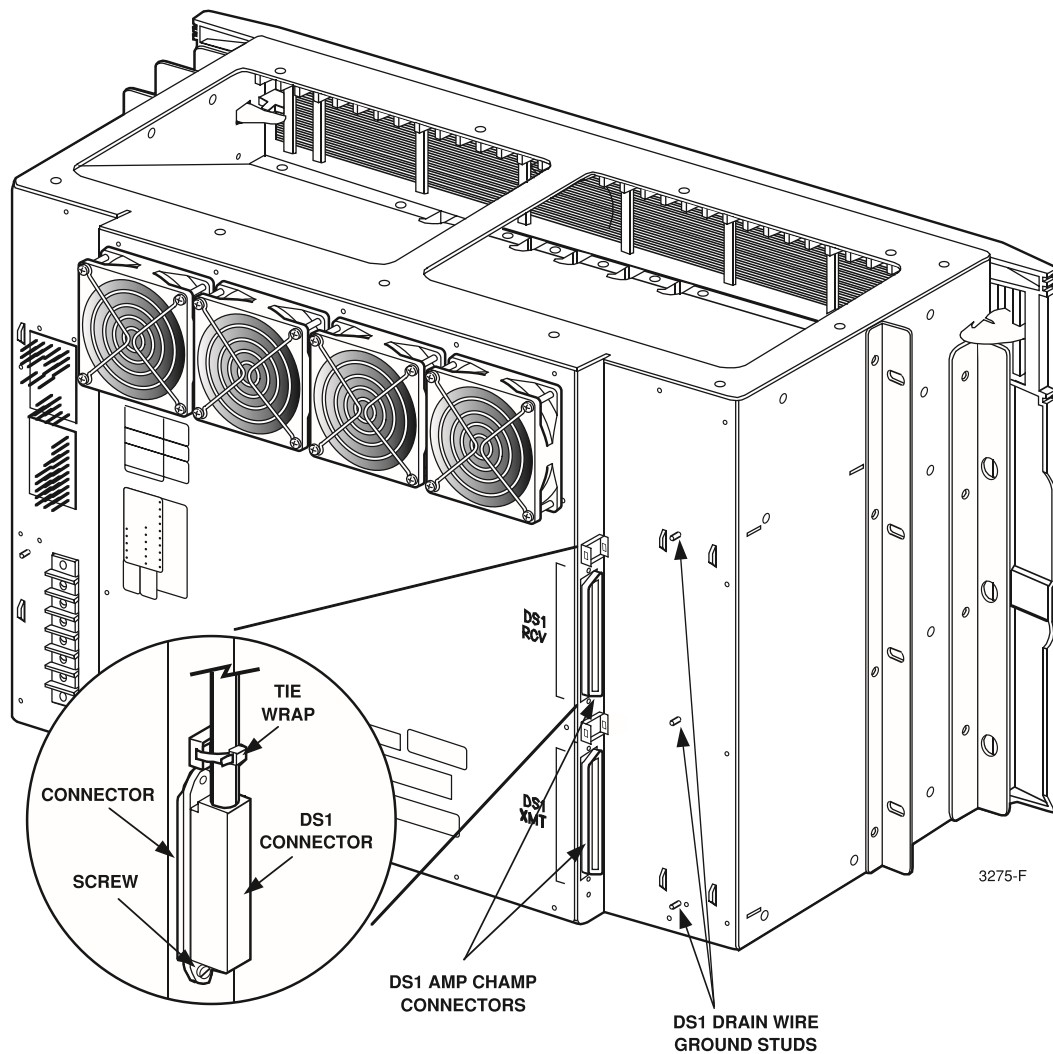

Figure 4-13. DS1 Transmit and Receive Connectors Location
2. Locate the DS1 RCV and XMT connectors at the rear of the HDT chassis as shown in Figure 4-13.
3. Connect the DS1 **receive** (input) cable to the **DS1 RCV** connector (see Figure 4-13).
6. Connect the DS1 **transmit** (output) cable to the **DS1 XMT** connector (see Figure 4-13).
9. If each connector has a separate drain wire, attach the drain wire to the nearest DS1 drain wire ground stud (see Figure 4-13). Note: If the cable is provided by ADC, the shield drain wire is connected to ground through the connector.